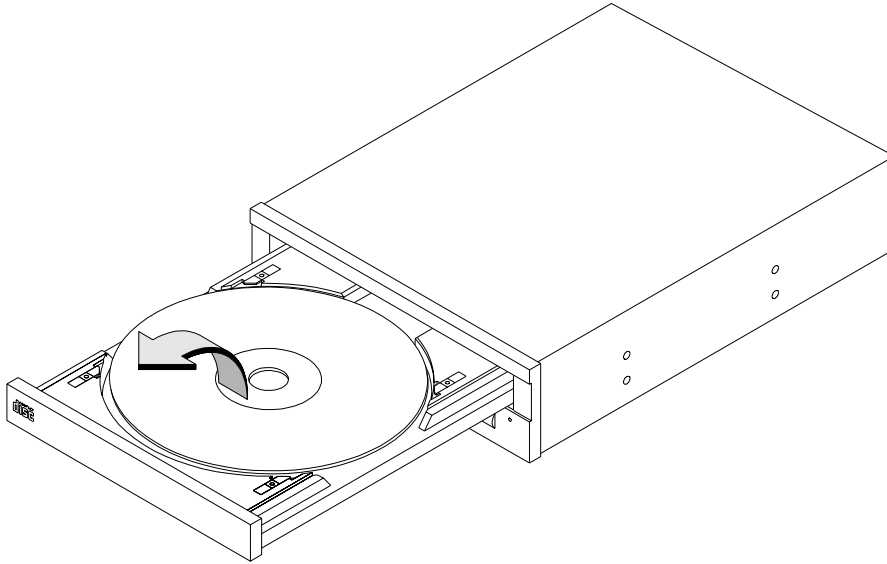

Figure 8-4
- 2 Wait until the drive has fully ejected the disc tray, then remove the disc from the tray as shown in Figure 8-4. Be careful to touch only the edges of the disc.